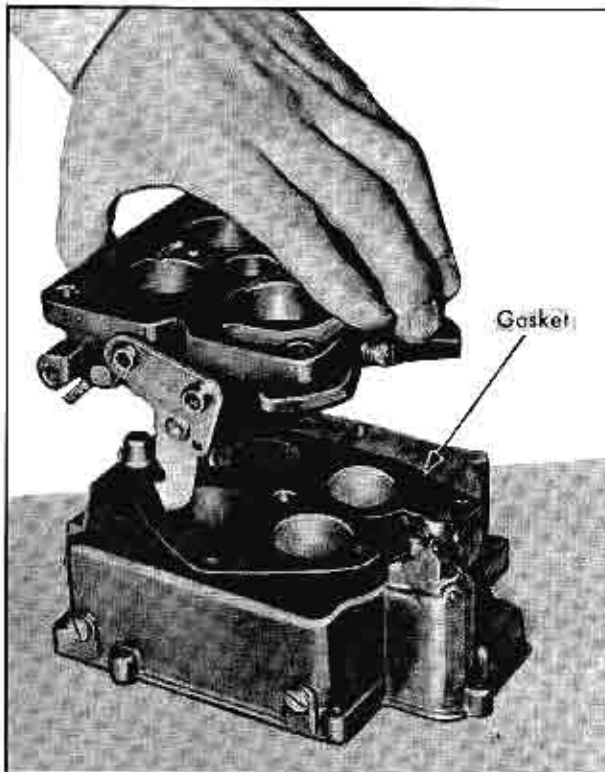

Fig. 12-48 Installing Throttle Body
2. Place throttle body assembly on bowl with primary throttle lever and fast idle cam on same side of bowl as fuel sight plugs, as shown in Fig. 12-48.